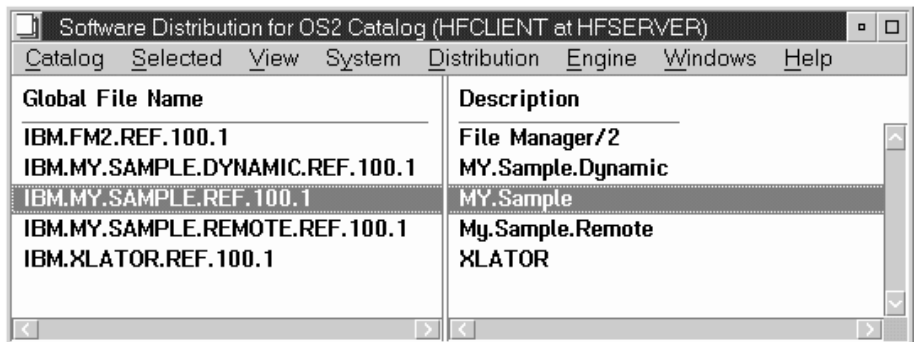

Figure 137. TME 10 Software Distribution for OS/2 Catalog window
- 3 Enter your user ID and password, and click on the **Logon** push button. The TME 10 Software Distribution for OS/2 Catalog window is displayed, as shown in Figure 137.